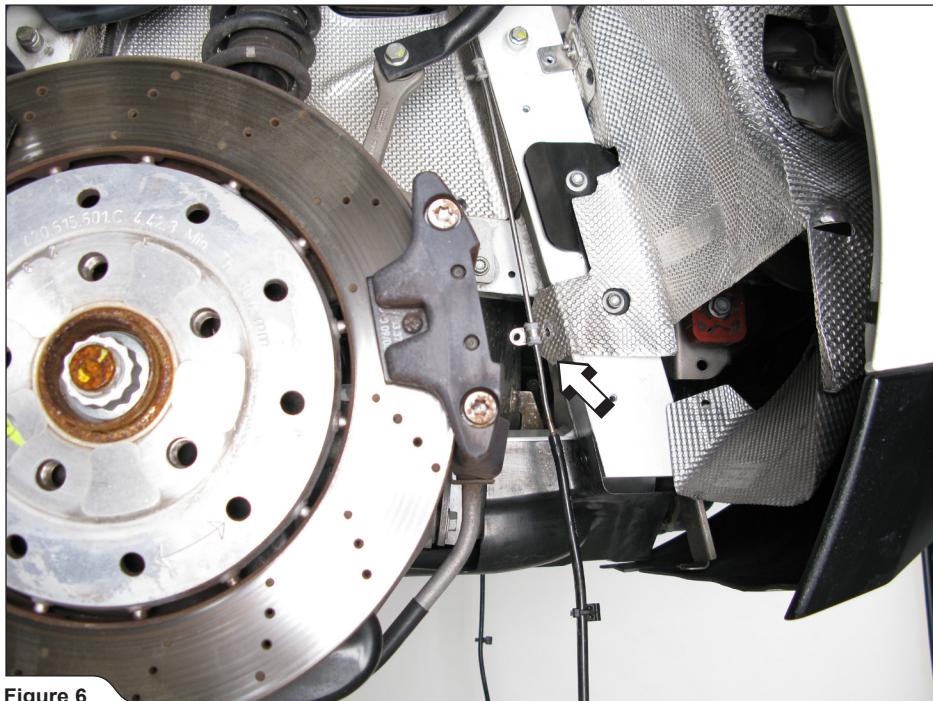

Figure 6
- Carefully bend marked parts of wheel arch heat shields as shown and pull the vacuum tubes off the vacuum actuators (**Figure 6**).